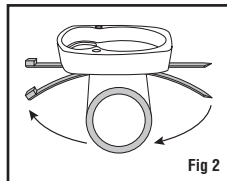

Fig 2
STEP 1: Use the included zip-ties and shim pad (if necessary) to attach the bracket to the handlebar as shown in Figure 2. Tighten the zip-ties securely and trim off any excess length.